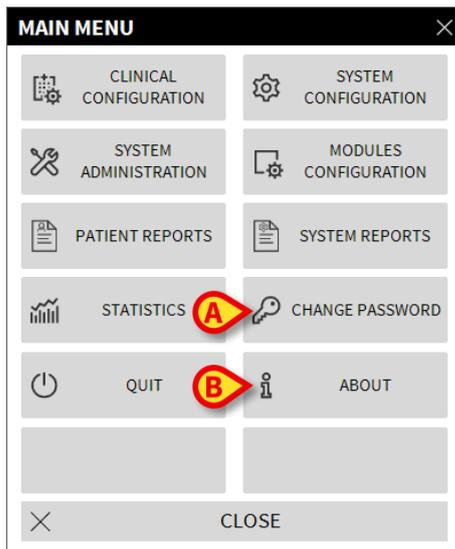

Fig 36
The **Change Password** button on the DIGISTAT® main menu (Fig 36 A) opens a window making it possible to change the password of the user currently logged to the system.
- Click the **Change Password** button (Fig 36 A)
The **About** button on the DIGISTAT® main menu (Fig 36 **B**) displays a window containing information on the DIGISTAT® version installed and the related licenses (Fig 38).